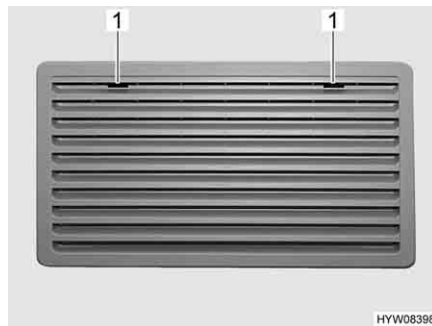
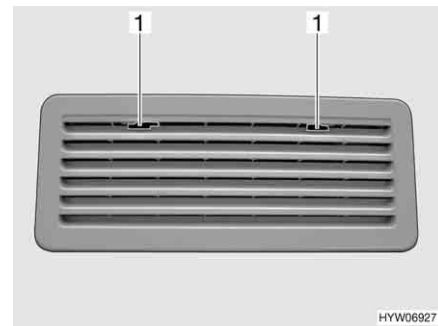

Fig. 218 Refrigerator ventilation grill (Thetford large)
Fig. 219 Refrigerator ventilation grill (Thetford small)
- Move the locking device (Fig. 218,1 or Fig. 219,1) to the middle.